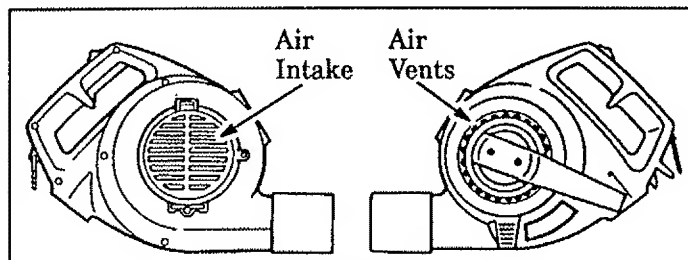

Figure 10
1. **Keep the air intake clean and air vents free of debris** to avoid overheating the motor. Figure 10. Prevent foreign objects from entering fan area.